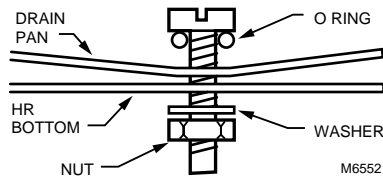

Fig. 9. Installing drain line.
- Hand tighten the nut. See Fig. 9.